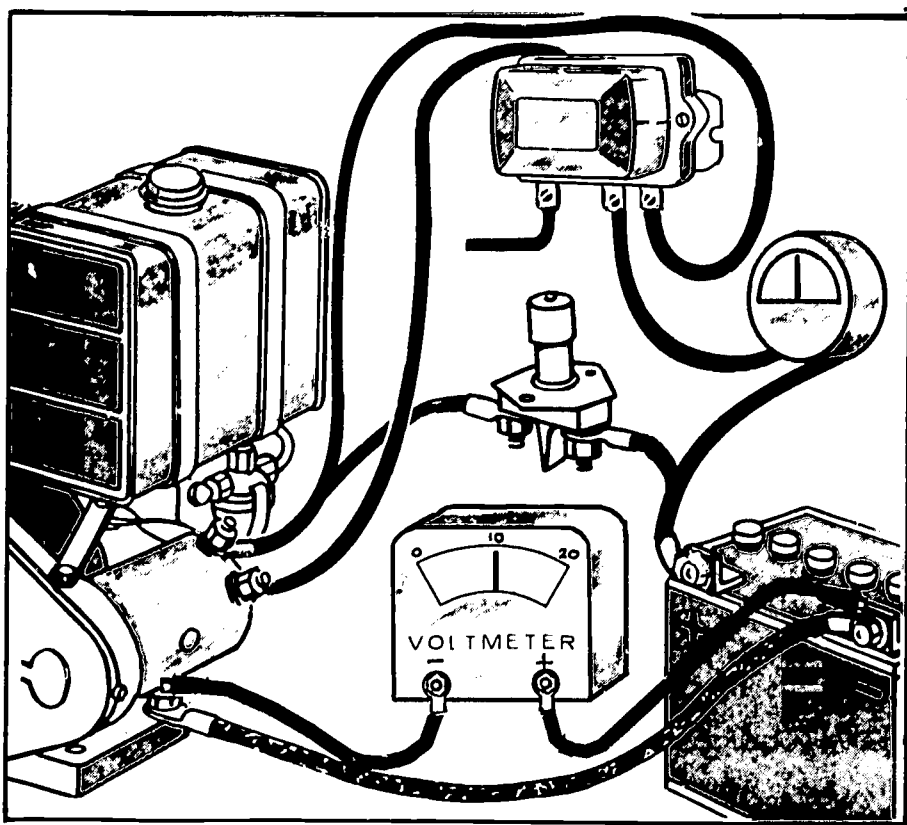

FIGURE 57. Checking the battery and ground connections with the voltmeter.
1. Check for proper ground connections at the starter-generator or at the battery (Figure 57).